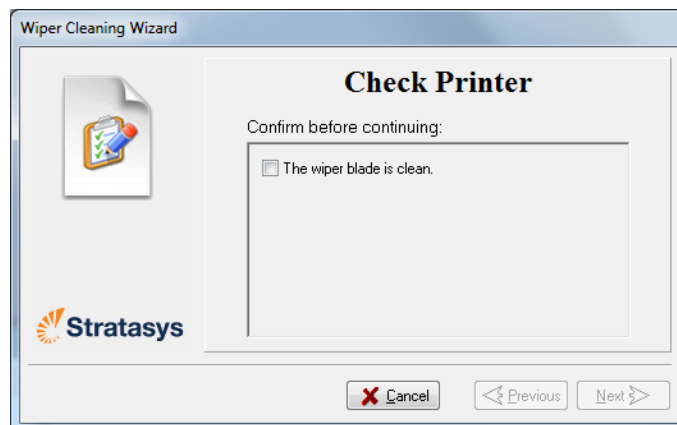

Figure 6-32 Wiper Cleaning wizard during steps 6–10
10. In the wizard screen (see Figure 6-32), confirm that the wiper blade is clean, and click **Next**.